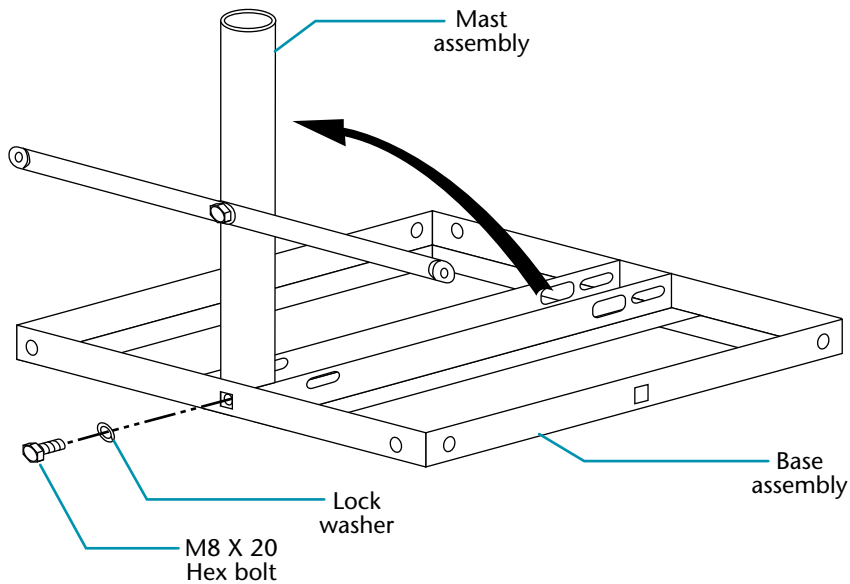

Figure 4-7. Securing mast to the base
5. Secure mast to base with an M8 X 20 hex-head bolt and lock washer, as shown in figure 4-7.